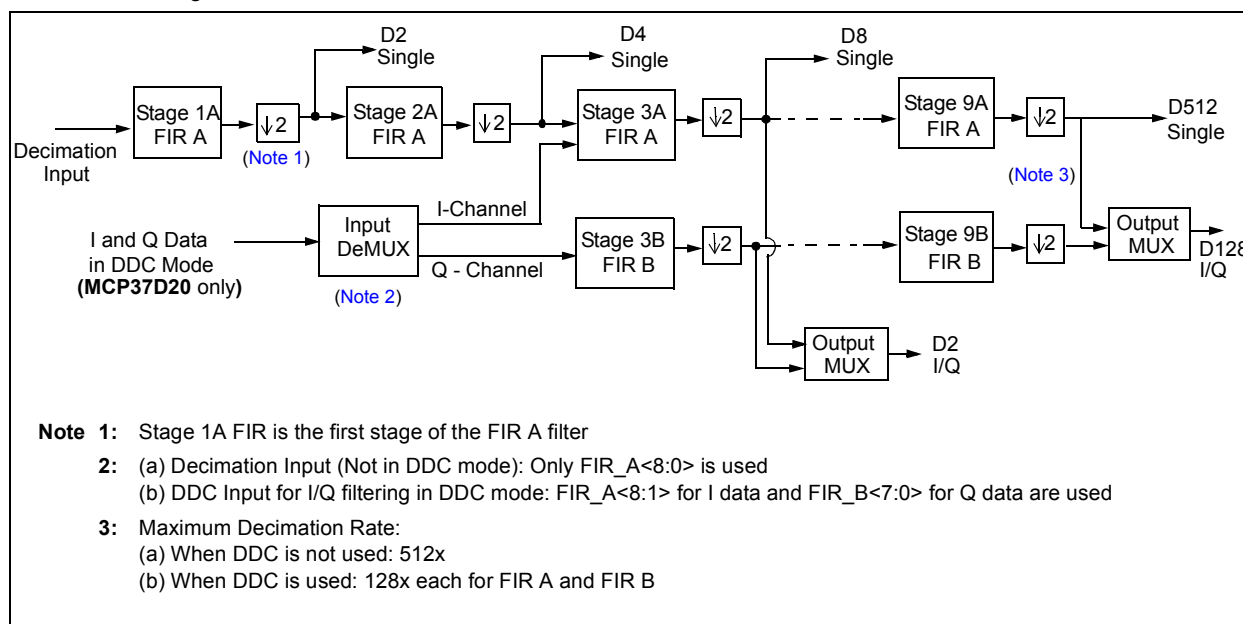

FIGURE 4-12: Simplified Block Diagram of Decimation Filters.
Figure 4-12 shows a simplified decimation filter block diagram and Table 4-10 summarizes the related control parameters for using decimation filters.
- **MCP37D20-200:** (a) When DDC mode is not required, only FIR A is used. (b) When digital down-conversion (DDC) is used for I and Q data filtering, both FIR A and FIR B filters are used (see Figure 4-12). In this case, both are set to the same decimation rate. Note that stage 1A in FIR A is unused: the user must clear $FIR_A<0>$ in Address 0x7A (Register 5-34).